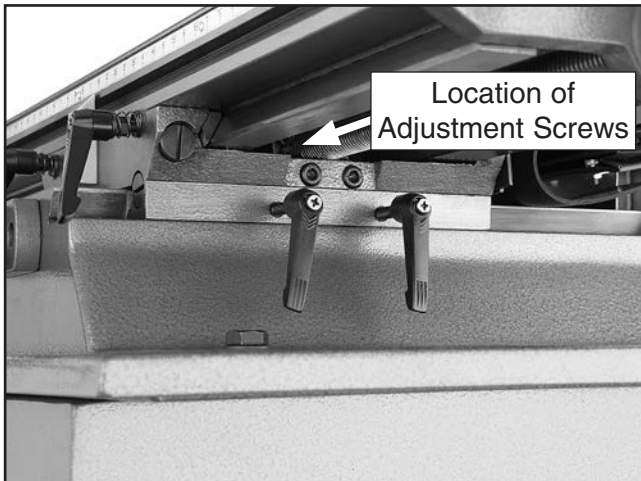

Figure 57. X-axis leadscrew adjusters.
1. Locate the X-axis leadscrew nut under the middle of the table. The head on the adjustment screws face to the right (**Figure 57**).